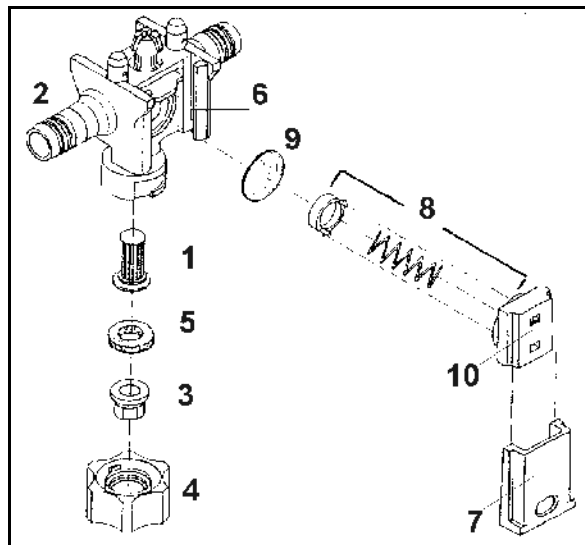

Fig. 151
Occasionally check the seating of the tapered slide (Fig. 151/7).
- To do this, push the slide into the nozzle body (Fig. 151/2) as far as possible with slight pressure with your thumb.
- The nozzle filter (Fig. 151/1) is placed from below into the nozzle carrier (Fig. 151/2).
- Insert the nozzle (Fig. 151/3) into the bayonet cap (Fig. 151/4).
- Place the rubber seal ring (Fig. 151/5) above the nozzle.
The reason for **dripping** of the nozzles at a shut off boom feed is residue on the diaphragm seating (Fig. 151/6) Therefore the corresponding diaphragm should be cleaned as follows:
- Pull the slide (Fig. 151/7) out of the nozzle carrier (Fig. 151/2) in direction of the bayonet cap.
- Remove the spring element (Fig. 151/8) and the diaphragm (Fig. 151/9).
- Clean the diaphragm seating (Fig. 151/6).
Ensure the correct fitting directions of the spring elements. The edges on the spring element housing (Fig. 151/10) are offset on the right and left hand side and should rise in direction of the boom profile when fitting.